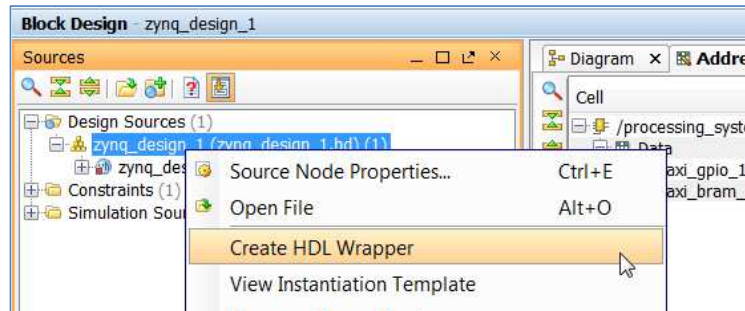

Figure 35: Create HDL Wrapper
3. In the Sources window, select the top-level subsystem source, and select **Create HDL Wrapper** to create an example top-level HDL file (**Figure 35**).